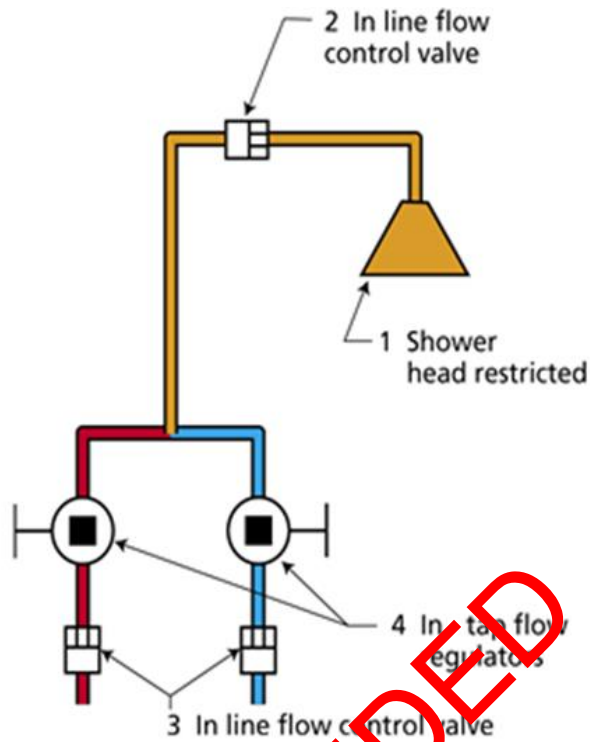

Figure 1: In-line flow control valves
- In-line flow control valves with in - tap flow regulators, refer to Figure 1;